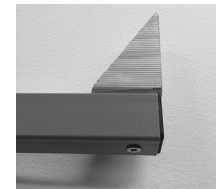

Fig 13
- b. Or you could securely fasten a piece of timber (in any shape or size) to the horizontal bar using a fastener (not supplied) through the horizontal bar (1) and into the timber. (fig13 ) Either using a. or b. options will prevent any materials from falling off the multi-rack shelving.